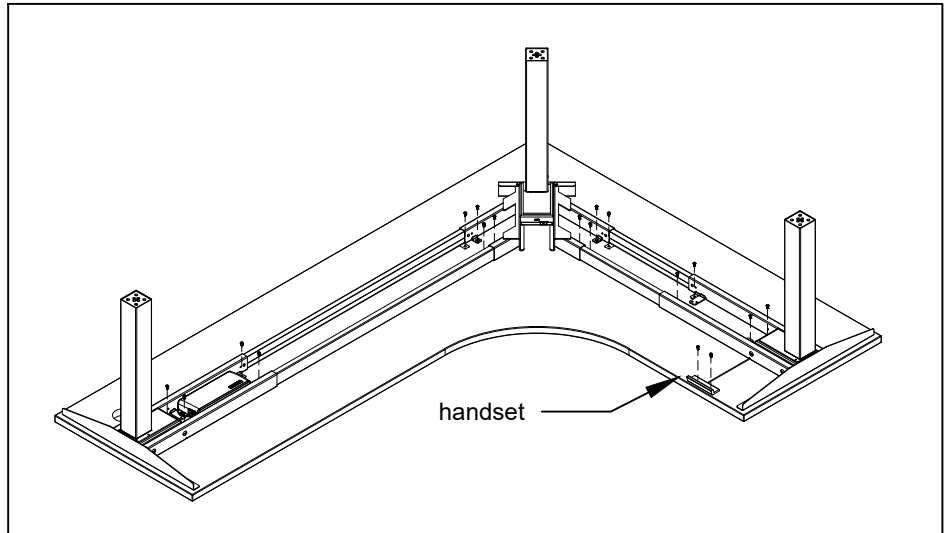

FIGURE 12
11. Install the handset with 4 x 25 cross-head, then secure the worksurface with 5 x 20 cross-head screw (Figure 12).